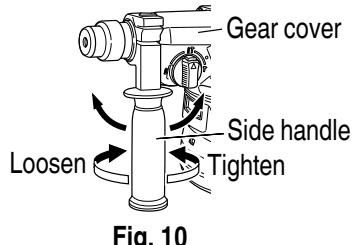

Fig. 10
2. Attaching the side handle (Fig. 10)